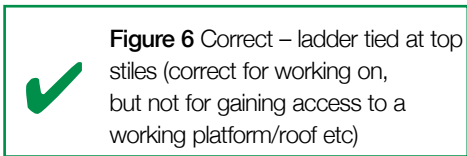

Figure 6 Correct – ladder tied at top stiles (correct for working on, but not for gaining access to a working platform/roof etc)
- tie the ladder to a suitable point, making sure both stiles are tied, see Figures 6, 7 and 8;